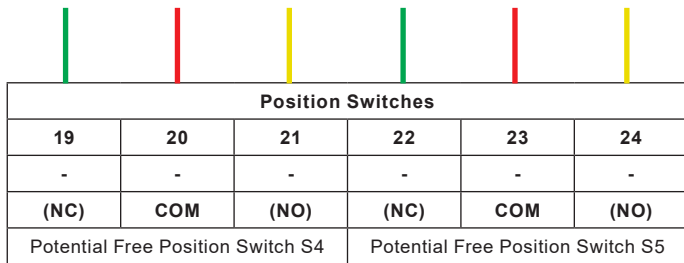

Fig. 11 Auxiliary Travel Switch Terminal Diagram
- Configure and connect the switches to the control system as shown in Figure 11 Auxiliary Travel Switch terminal Diagram
- Connect the wiring harness from switch S4 to terminals 19-21, and switch S5 to terminals 22-24 as shown in Figure 11 Auxiliary Travel Switch Terminal Diagram
- Configure the switches to the control system is also shown shown in Figure 11 Auxiliary Travel Switch Terminal Diagram